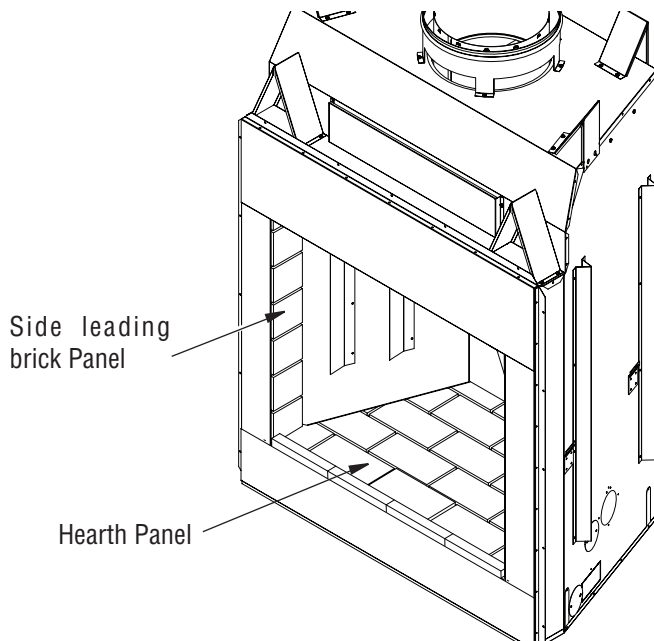

Figure 20 - Installing Hearth and Leading Brick panels
1. Install bottom brick panel. Using at least two people, hold bottom brick panel by its side edges. Place the back edge of bottom panel into the firebox first and carefully lower the front edge of panel. Make sure bottom panel is centered in the firebox and flush with the front of the fireplace. Be careful not to pinch your fingers between the panel and firebox (Figure 20).
2. Install the left and right side leading bricks (Figure 20).